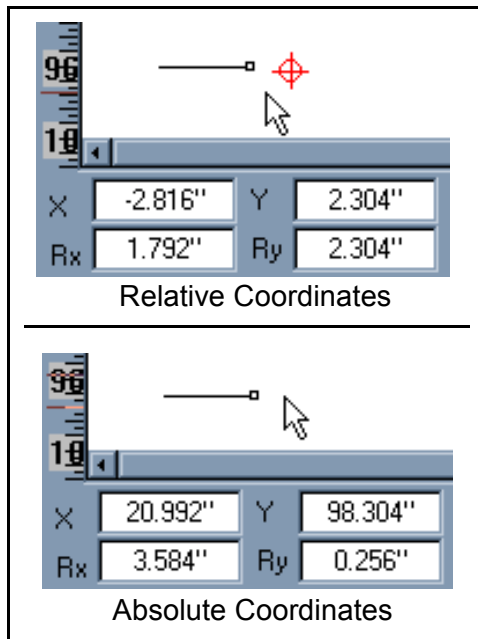

Figure 2.4 *Coordinate boxes*
*Figure 2.4* shows the difference between relative coordinates when the relative zero point is set (top example) or not (bottom example).
Figure 2.4 shows the difference between relative coordinates when the relative zero point is set (top example) or not (bottom example).